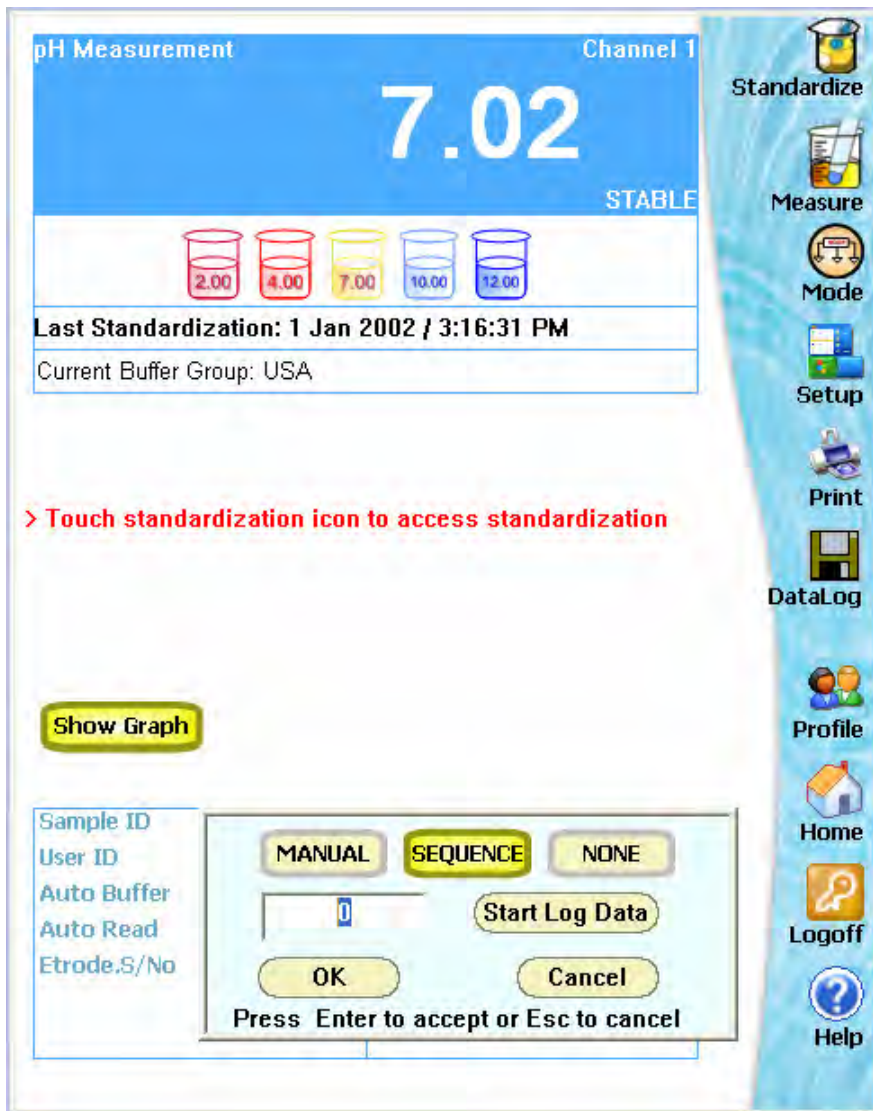

Figure 35 : Enable data logging
9. Click on **Sample ID** field. A dialog appears (Figure 35)